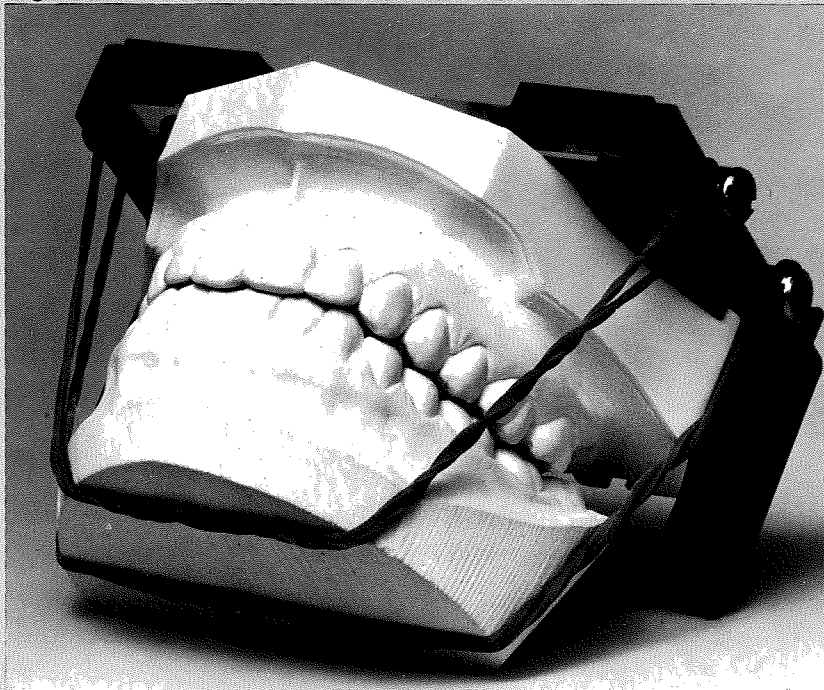

Fig. 6
**7** Place the mandibular and maxillary model, with base attached, into occlusion and secure to the upper member of the base unit (Fig. 6).